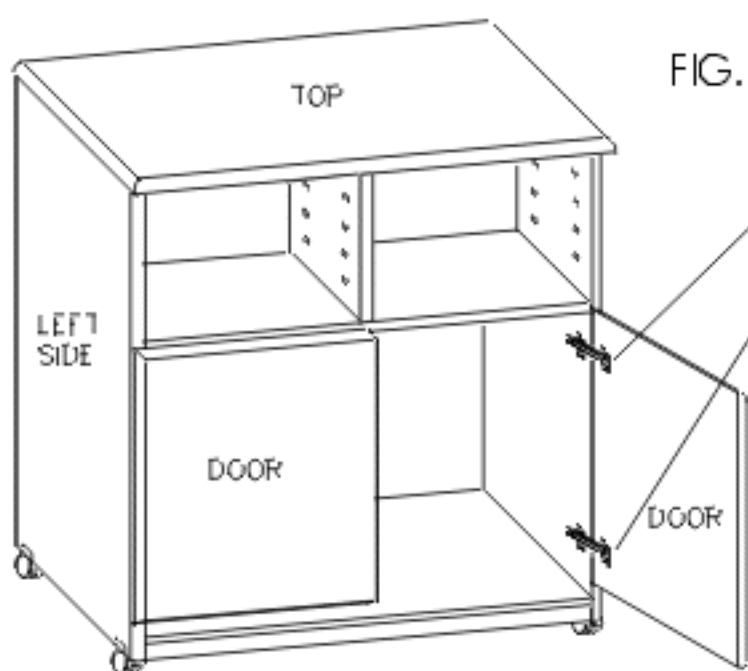

FIG. 8
- 11** NOTE: The FIXING SCREW (3) and the SIDE ADJUSTMENT SCREW (2) may need to be loosened before mounting hinges as described in the following step 11.
Doors are interchangeable left to right. Attach the MOUNTED HINGES on the DOORS to the HINGE PLATES on the SIDES, by aligning the CUT OUT SLOTS on the HINGE ARMS over the FIXING SCREWS (3) on the HINGE PLATES (FIG. 8). Slide HINGES on DOORS inward until DOOR EDGE meets the FRONT EDGE of SIDES, then tighten down FIXING SCREW (3).